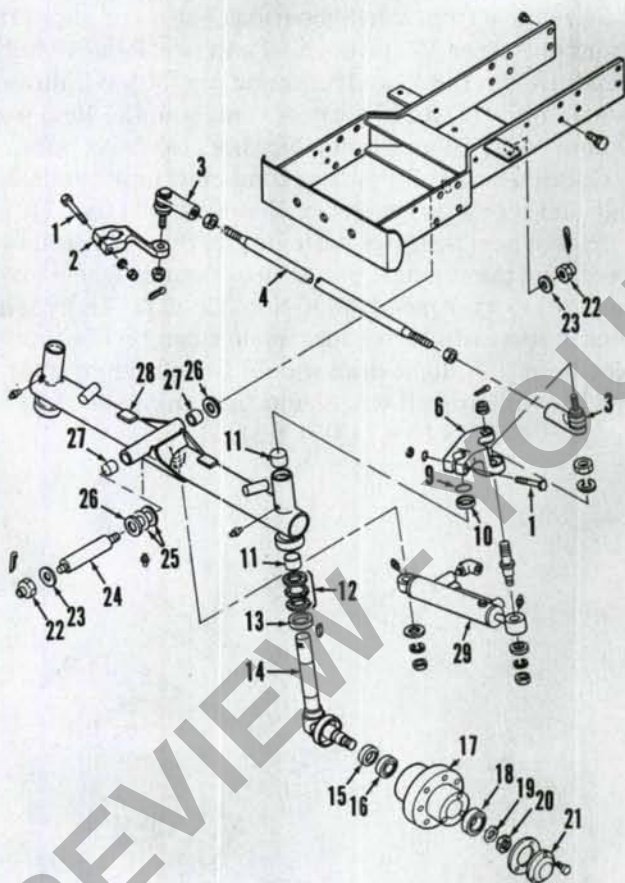

Fig. 1—Exploded view of fixed tread width front axle assembly used on Models 1120 and 1220 equipped with power steering.
with power steering, disconnect hoses from steering cylinder and plug all openings. On all models, remove nut (22—Fig. 1 or 2) from axle pivot shaft (24). Drive pivot shaft out of front axle and axle support, then lower axle assembly from tractor.
Fig. 2—Exploded view of adjustable tread width front axle assembly used on Models 1120 and 1220 equipped with mechanical steering. Refer to Fig. 1 for legend except for the following: